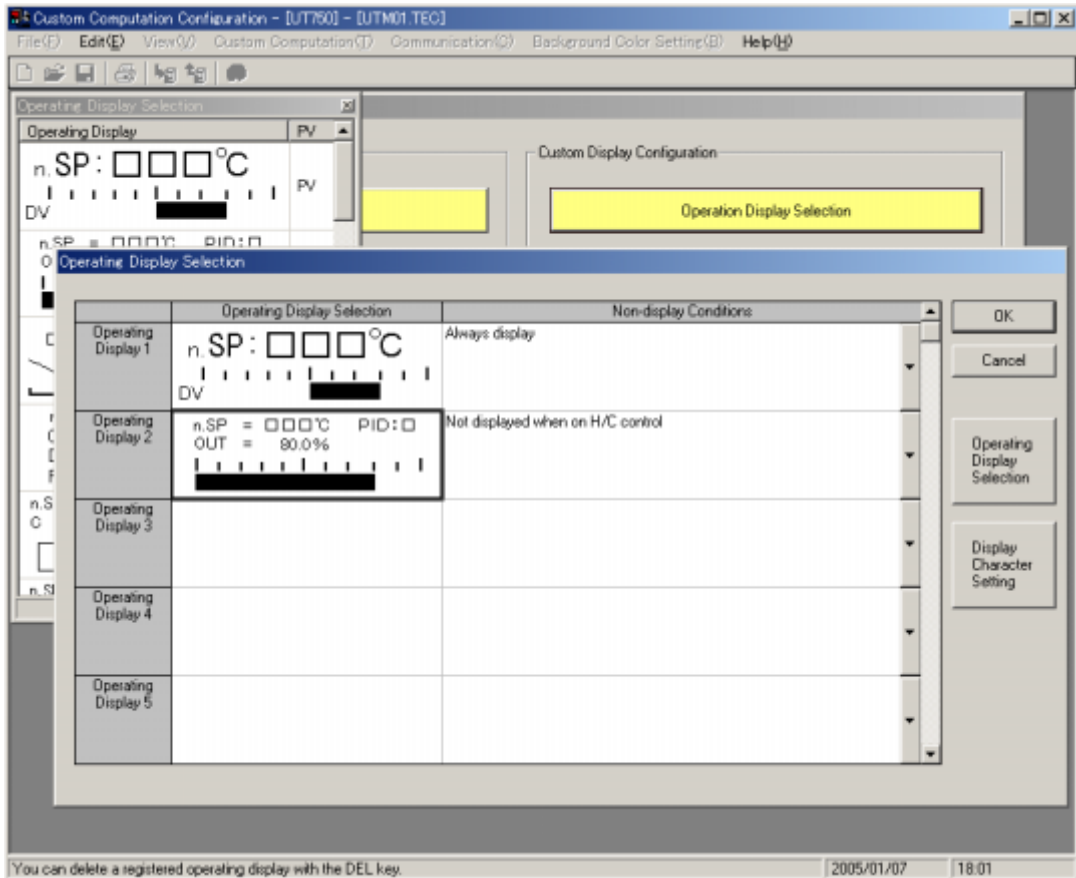

Figure 6.2.1 [Custom Display Selection] Dialog Box
- (1) In the [Operating Display Selection] dialog box (Figure 6.2.1), click the custom display you want to delete.